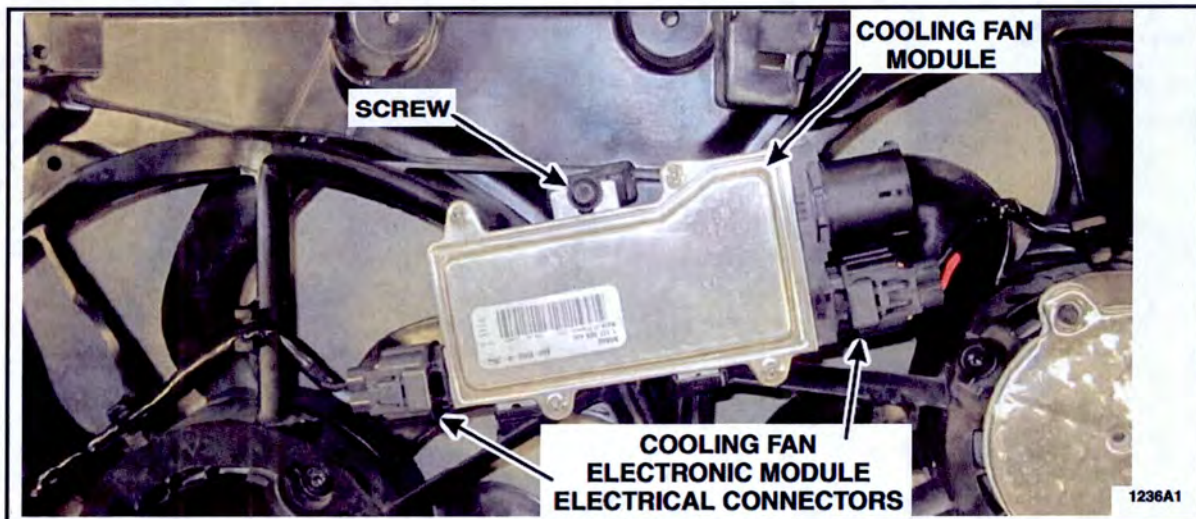

FIGURE 1
2. Disconnect the cooling fan electronic module electrical connectors. See Figure 1.
3. Remove the screw and detach the cooling fan electronic module from the cooling fan. See Figure 1.